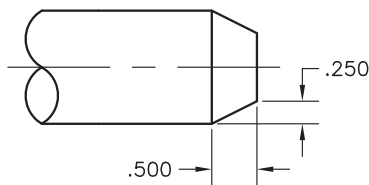

Fig. 16-19
6. Using the **ARC** and **CHAMFER** commands, construct the detail of the flat-blade screwdriver tip shown in Fig. 16-19.